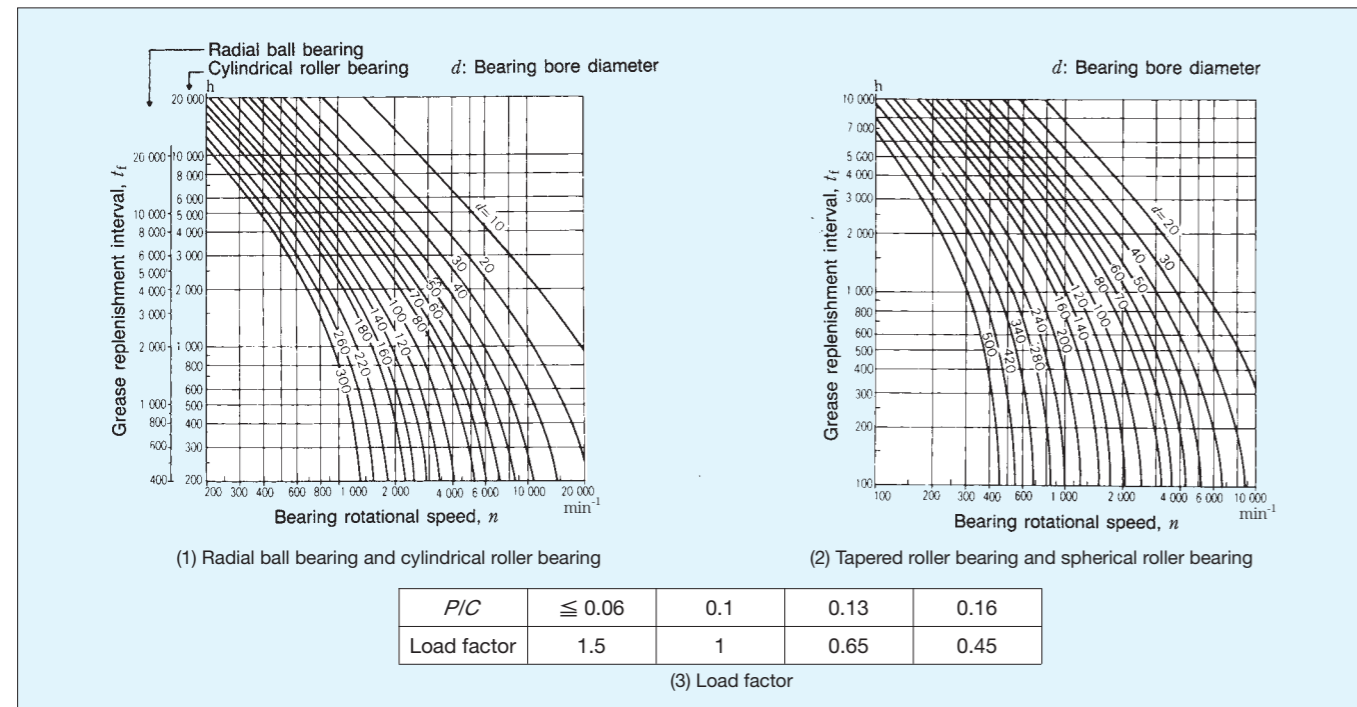

Fig. 4.2 Grease replenishment intervals
(1) Replenishing Interval
Even if high-quality grease is used, there is deterioration of its properties with time; therefore, periodic replenishment is required. Figs. 4.2 (1) and (2) show the replenishment time intervals for various bearing types running at different speeds. Figs. 4.2 (1) and (2) apply for the condition of high-quality lithium soap-mineral oil grease, bearing temperature of 70°C, and normal load ($P/C=0.1$).
In case of ball bearings especially, the replenishing time interval can be extended depending on used grease type. (For example, high-quality lithium soap-synthetic oil grease may extend about two times of replenishing time interval shown in Fig. 4.2 (1). If the temperature of the bearings is less
Please refer to Fig. 4.2 (3), and multiply the replenishing time interval by the load factor.